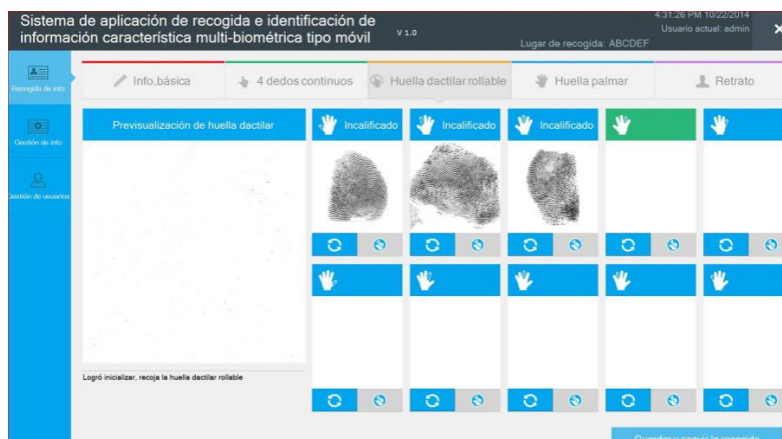

Figure 5.3.3.1
3. When the thumb of right hand collection is completed, system will automatically evaluate the quality of finger-print. If finger-print is qualified, it will change the finger position frame of successful collection to blue color. This finger position upper right corner will display rating grade (excellent, good, qualified), and then automatically jump to the next finger position for collection until all the ten fingers collection has been completed totally. The collected finger-print effect is as shown (Figure 5.3.3.1)